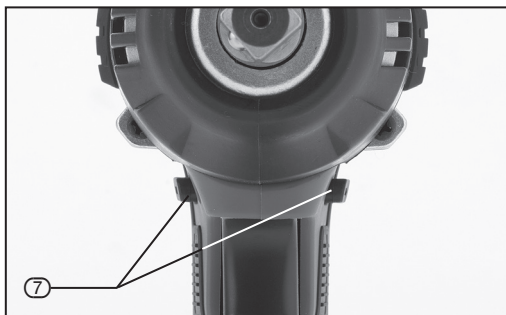

FIG. 2
6.2 ROTATIONAL DRIVE SELECTION – FIG.2